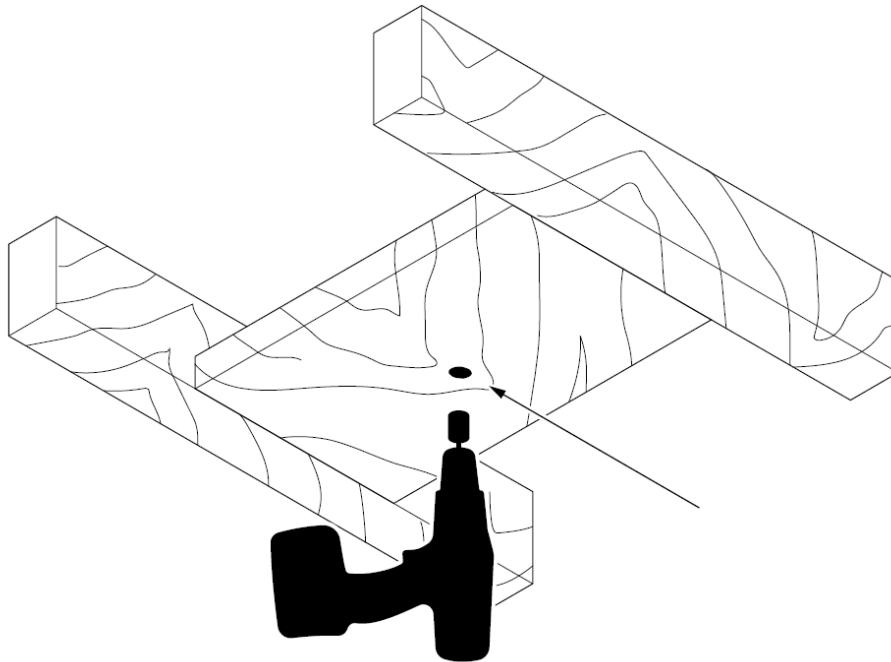

Fig. 4.1
1. Use the hanger bracket as a template to mark the screw hole positions on the ceiling. (Fig.4.1)
2. Install the hanger bracket onto the ceiling by using appropriately sized mounting screws. Ensure the screws used are suitable for the mounting surface and the surrounding environment. (Fig.4.1)